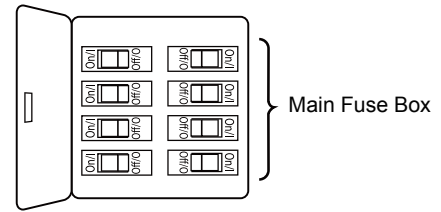
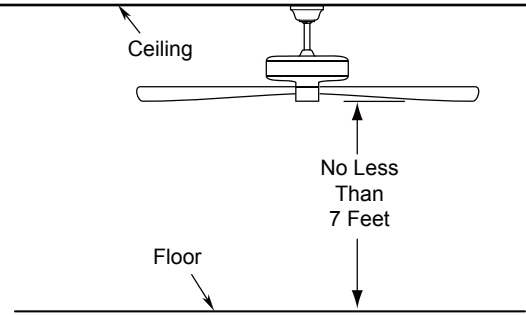
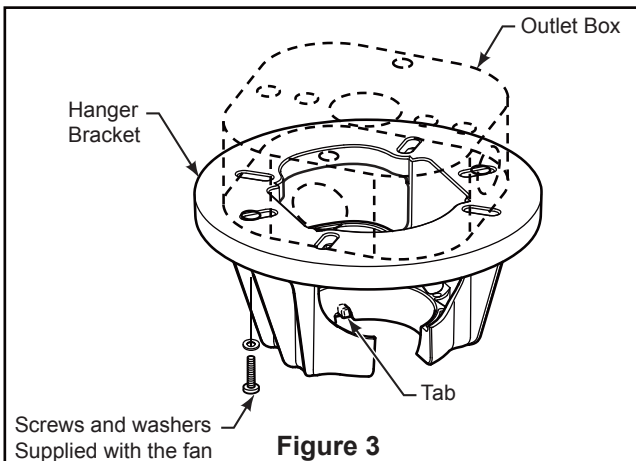

Figure 1
Figure 2
Figure 3
Your new ceiling fan will require a grounded electrical supply line of 120 volts AC, 60 HZ, 15 Amp Circuit. Electrical code requires use of a fan-rated outlet box to support the extra weight and motion associated with a ceiling fan. A fan-rated outlet box will be labeled as such and typically supports up to a 70lb ceiling fan. Fan-Rated Outlet Boxes vary in ratings and design. Ensure the ratings of your ceiling fan outlet box meet the requirements for the ceiling fan being installed. Figure 1, Figure 2 and Figure 3 depicts different structural configurations that may be used for mounting the outlet box.
Low profile outlet box (Figure 1)
Deep outlet box (Figure 2)
Deep outlet box with brace (Figure 3)
- 1. Remove the three stabilizer tabs and plastic bag from the motor. Discard the stabilizer tabs. (Figure 1)
- 2. Prior to assembly, set aside and save the hardware bags packaged with your fan. Remove the hanger ball by loosening the set screw in the hanger ball until the ball falls freely down the downrod. Remove the pin from the downrod, then remove the hanger ball. Retain the pin and hanger ball for reinstallation in Step 7. (Figure 2)
- 3. Remove the hairpin clip and clevis pin from the bottom of the downrod. Retain the pin and clip for reinstallation in Step 5. (Figure 3)
To avoid possible fire or shock, be sure electricity is turned off at the main fuse box before hanging. (Figure 1)
The fan must be hung with at least 7' of clearance from floor to blades. (Figure 2)
1. Securely attach the hanger bracket to the outlet box using the #8-32 outlet box screws and washers supplied with the fan. (Figure 3)
NOTE: Outlet box screws pass through slotted holes of the hanger bracket. (Figure 3)
3. Carefully lift the fan and seat the downrod/hanger ball assembly on the hanger bracket that was just attached to the outlet box. (Figure 4) Be sure the groove in the ball is lined up with tab on the hanger bracket. (Figure 3)
- 1. To set the code on receiver unit, slide dip switches to the same positions as set on the remote control. (Figure 1)
<p>To avoid possible electrical shock, be sure electricity is turned off at the main fuse box before wiring. (Figure 2)</p>
- 2. Slide the receiver into the hanger bracket before wiring as shown in figure 3.
1. Assemble canopy by rotating key slot in canopy over shoulder screw in hanger bracket, taking care not to pinch the wires. Fully assemble and tighten second shoulder screw that was previously removed, then tighten another shoulder screw. (Figure 1)
2. Securely attach and tighten the canopy screw cover over the shoulder screws in the hanger bracket utilizing the key slot twist-lock feature. (Figure 2)
1. Secure the three blades using the 3/16"-24 truss head screw with spring washer/flat washer through the holes located on the bottom of the motor assembly. (Figure 1)
2. Attach the plastic cap assembly to the motor assembly, which is held in place by a magnet. (Figure 2)
- 1. **IMPORTANT:** Using a full range dimmer switch (not included) to control fan speed will damage the fan. To reduce the risk of fire or electrical shock, do not use a full range dimmer switch to control the fan speed. (Figure 1)
- 2. Restore electrical power to the outlet box by turning the electricity on at the main fuse box. (Figure 2)
- 3. To make fan operational, remove battery insulator pull tab before use transmitter. Then, follow the remote code setting process. If not used for long periods of time, remove battery to prevent damage to transmitter. Store the remote away from excessive heat or humidity. (Figure 3)